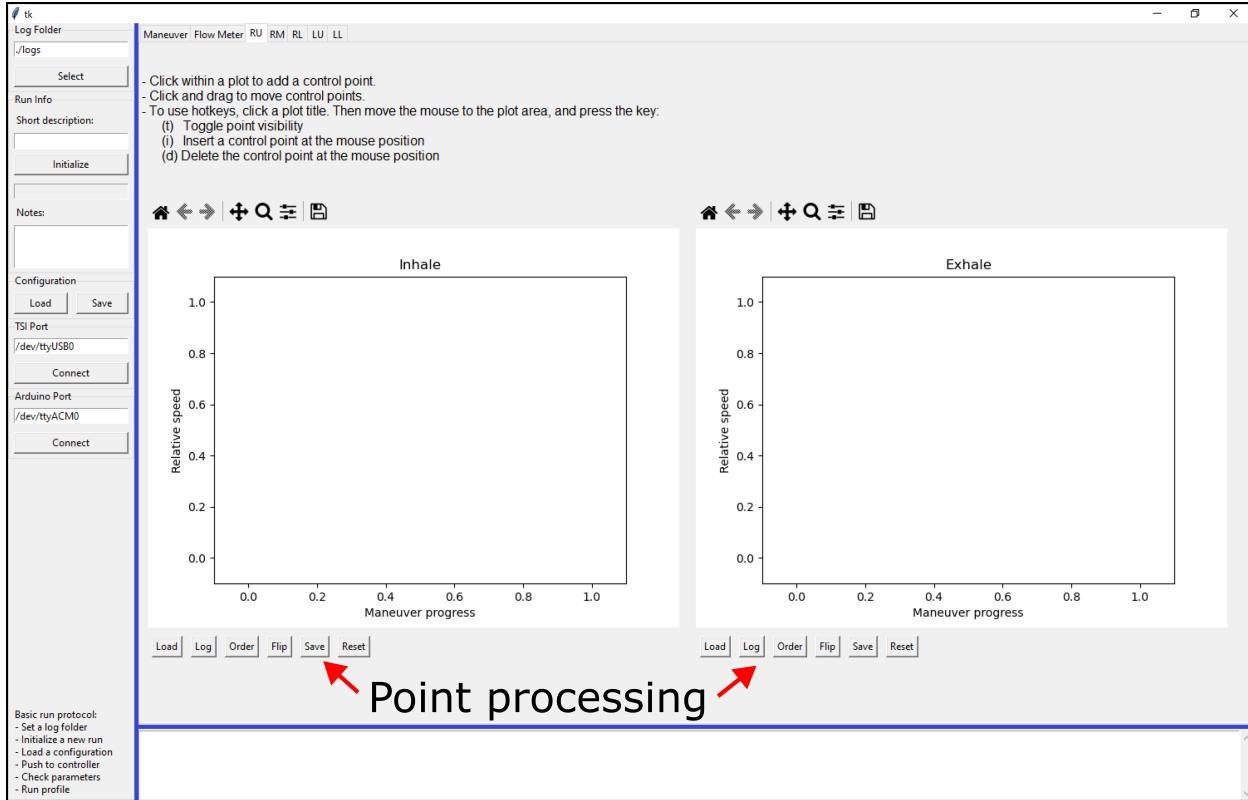

Figure 4: Control curve tab. Interactively define a Bezier curve to set relative motor speeds.
**Figure 4** shows an example control curve tab. The layout of the control curve tabs is the same for every lobe, but the information is preserved between each lobe tab (RU, RM, RL, LU, LL).